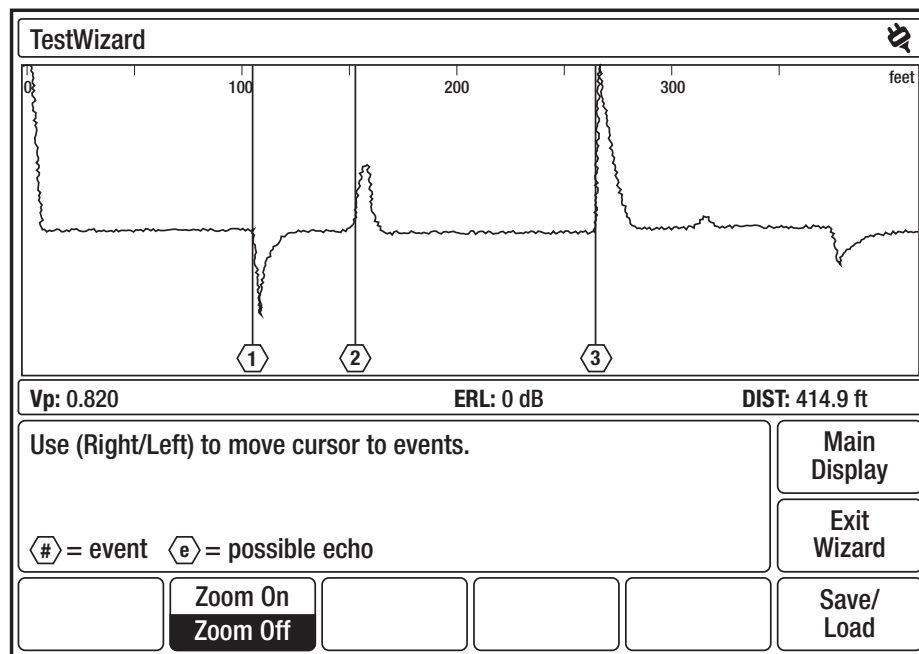

Figure 4-4: TestWizard Measurement Display
7. After selecting the event type, press **Next** to display the **TestWizard Measurement** display (Figure 4-4).